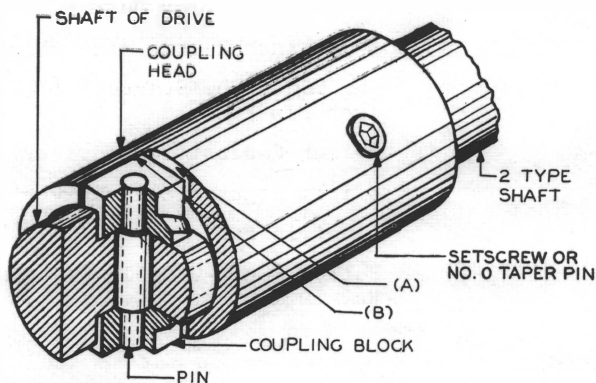

Fig. 22 - Location of 2-type Shaft Coupling
Fig. 22(A) and 23(A) - The coupling heads shall be so mounted on the shaft that with all the end play of the associated apparatus taken up in a direction towards the coupling, the gap between the coupling blocks and the slots shall be
2.39 Lateral Play of Couplings: Fig. 22(B) and 24(A) - There shall be some lateral play of the coupling in any direction at right angles to the length of the shaft but this lateral play shall be